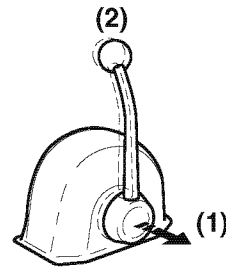

Figure 19
When the handle is pulled out (**Figure 19, (1)**), the engine speed can be controlled without engaging the clutch. The clutch remains in NEUTRAL, no load position. Turn the knob (**Figure 19, (2)**) counterclockwise to move the handle or clockwise to lock the handle.